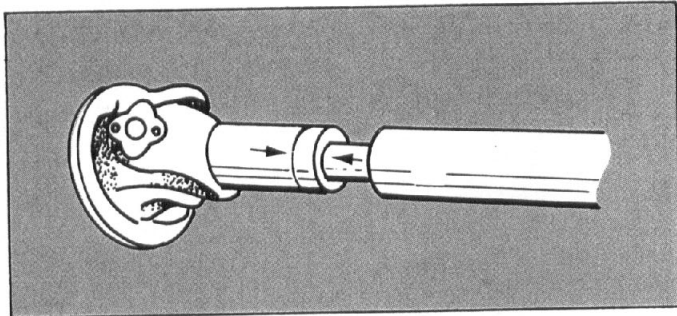

Figure 10. Drive line slip joint in phase.
2. Drive line slip joints that do not have the arrows or other markings pointing to each other will result in the drive line universal joints being out of phase, Figure 10. In other words, the transmission universal joint may be turned one spline or more to the right or left of being aligned with the universal joint at opposite end of the drive line. **NOTE:** Some computer designed drive lines are purposely built with U-joints out of phase. Check manufacturers specifications for proper setting. Also, check closely to make certain no twist has occurred to the tubing, causing these two joints to be out of phase. Make sure the slip joint works freely and is not bound or seized. Slip joints must absorb axle housing movements.